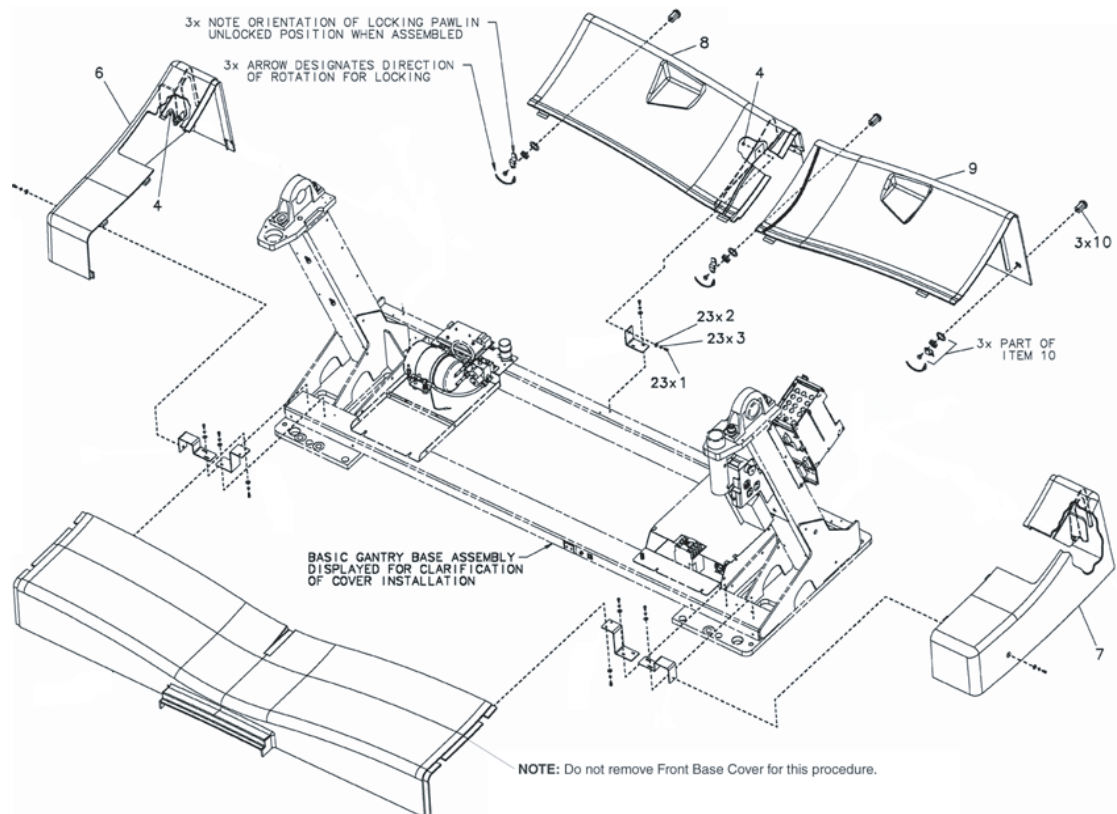

Figure 1-1 Gantry Base Covers
- 6.) Remove both left and right Gantry side base covers (items 6 & 7, respectively, in Figure 1-1) and then both rear base covers (items 8 & 9, in Figure 1-1).
- 3.) Reinstall both rear base covers (see Figure 1-1).